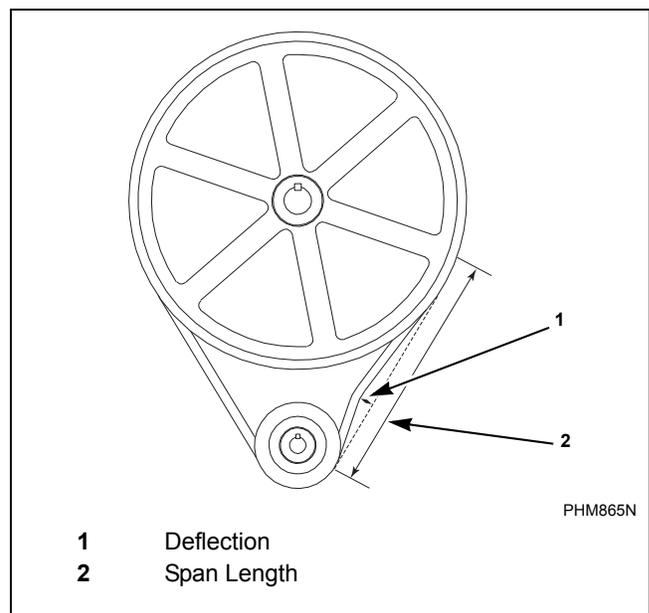

Figure 38
- **Deflection.** Refer to *Figure 38*. Belt tension measurements should be taken as close to the center of the belt span as possible. For every inch of span length, the belt should deflect 0.40 mm ($1/64$ inch). Thus, a belt with span length of 25 inches should deflect 9.9 mm ($25/64$ inch).